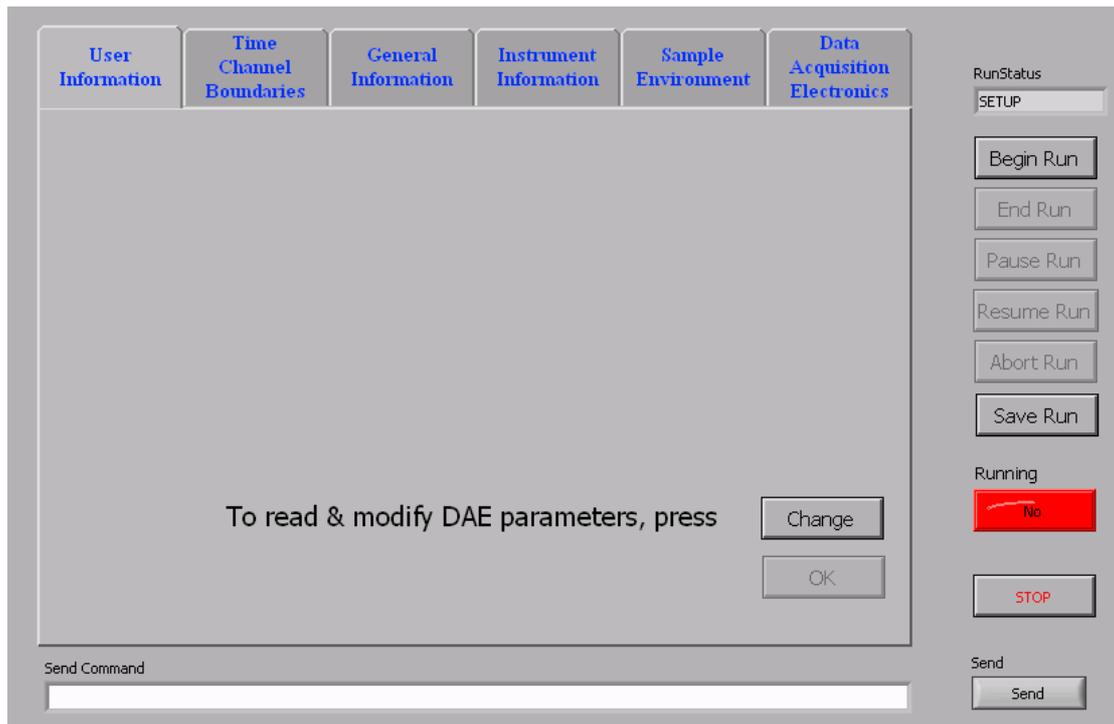

Figure 3: DAE VI
- ii) Use the **DAE** (Data Acquisition Electronics) VI in *Ray of Light*. This is accessed by clicking on the DAE tab. The DAE VI is illustrated in Figure 3. Data acquisition is started by clicking the “Begin Run” button at the top right of the VI.
The DAE VI has already been introduced in Section 4.4. Look again at Figure 3. The buttons down the right hand side relate to simple data acquisition commands which can also be issued via the *Open Genie* command line. Those which were not introduced in Section 4.4 were: